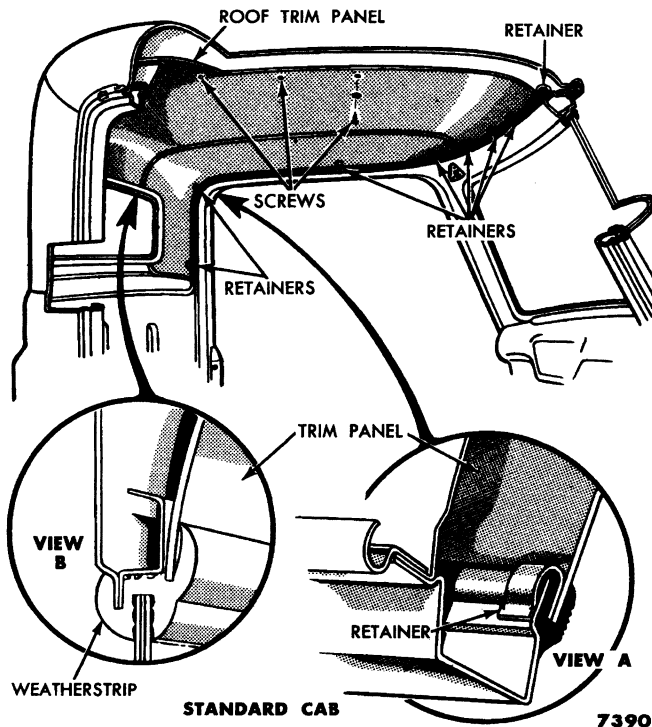

Fig. 9—Roof Trim Panels—Conventional and Cab Forward Models
(2) **ROOF TRIM PANEL—CONVENTIONAL AND CAB FORWARD.** The roof trim panel extends from the windshield header to the lower part of the rear window as shown in fig. 9. The roof trim panel retainer is secured in position with clip type retainers. These retainers are used along each side and at the centerline of the cab above the windshield opening ("A" fig. 9).
into the retainer ("A" fig. 9). The rear edge of the roof panel is inserted behind the rear window weatherstrip ("B" fig. 9). The roof trim panel is then secured at the center with three screws.